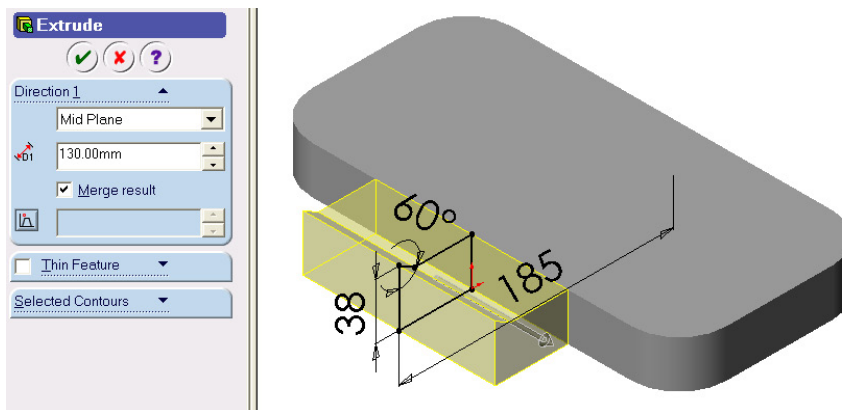

Figure 7 Boss extrusion parameters
15. Type **130 mm** in the distance 1 text box as shown in Figure 7.